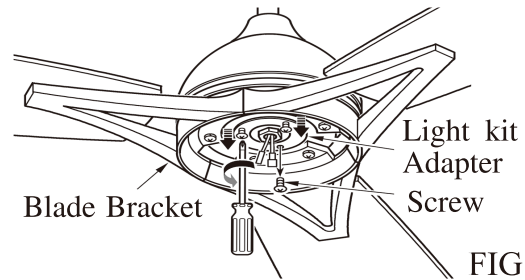

FIG.12
1. Remove 1 of 3 screws on light kit adapter,and loosen the other 2 screws. (See fig.12)